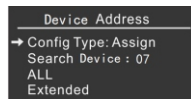
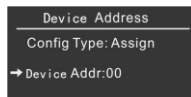
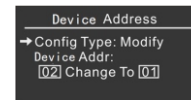

Figure 42 (Assign-Page 1)
Figure 43 (Assign-Page 2)
Figure 45 (Modify)
Enter control gear parameters configuration page as shown in above Figure 7 to Figure 9. Short press up key  $\triangle$  or down key  $\nabla$  to select "Device Address", then short press confirm key  $\leftarrow$  to enter "Device Address" page as shown in following Figure 42 to Figure 45. There are 3 types of configuration: "Assign", "Delete", "Modify" available for Device Address configuration. When the arrow cursor moves to point to "Config Type", short press plus key  $+$  or minus key  $-$  to select a configuration type.
Select "Assign" configuration type, the first page of Assign configuration type is shown as in following Figure 42. Short press up key  $\triangle$  or down key  $\nabla$  to select an operation item, the second page of Assign configuration type is shown as in following Figure 43.
Select "Modify" configuration type shown as in following Figure 45. Short press up key  $\triangle$  or down key  $\nabla$  to select an operation item.
-- "Device Addr" is to modify address of a push button input device which has already been addressed with a new specific address as shown in following Figure 45, The address on the left side is the old address 02, and the address on the right side is the modified new address 01. When the arrow cursor moves to point to address number, short press plus key  $+$  or minus key  $-$  to increase or decrease the address number. Short press confirm key  $\leftarrow$  to confirm current address modification.